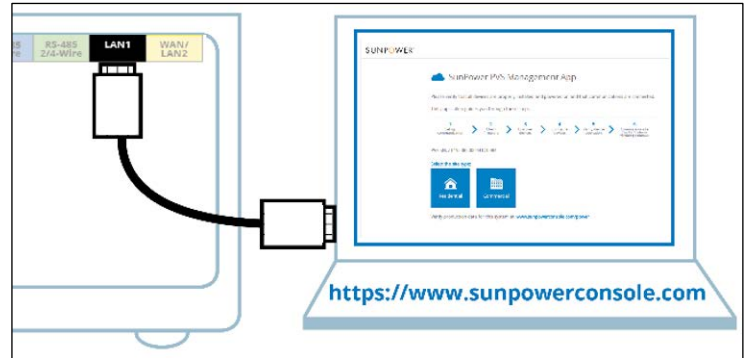

Fig. 35
4. Use an Ethernet cable to connect your laptop to PVS5x LAN 1 port (Fig. 35).